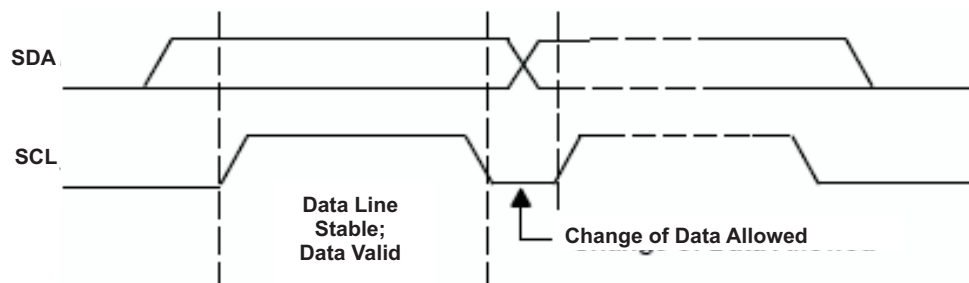
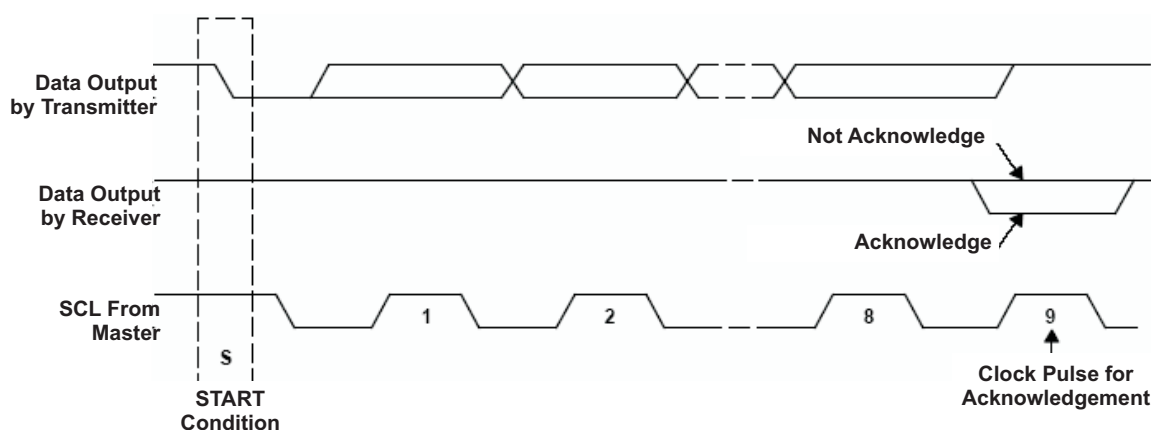

Figure 32. I2C Bit Transfer
Figure 33. I2C Acknowledge
- The master then generates the SCL pulses and transmits the 7-bit address and the *read/write direction bit* R/W on the SDA line. During all transmissions, the master ensures that data is *valid*. A *valid data* condition requires the SDA line to be stable during the entire high period of the clock pulse (see Figure 32). All devices recognize the address sent by the master and compare it to their internal fixed addresses. Only the slave device with a matching address generates an *acknowledge* (see Figure 33) by pulling the SDA line low during the entire high period of the ninth SCL cycle. On detecting this acknowledge, the master knows that a